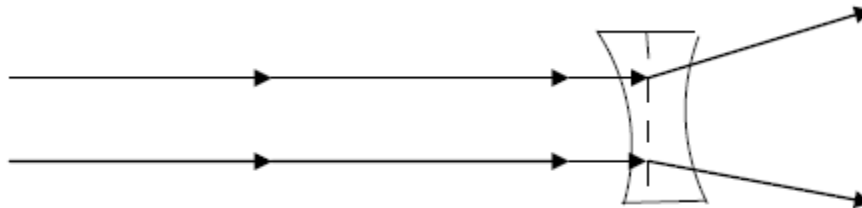

FIG. 2-7
- B. Diverging lenses are thicker at the edges than in the middle (FIG. 2-7). When light strikes this type of lens, the beam spreads out and the intensity decreases.